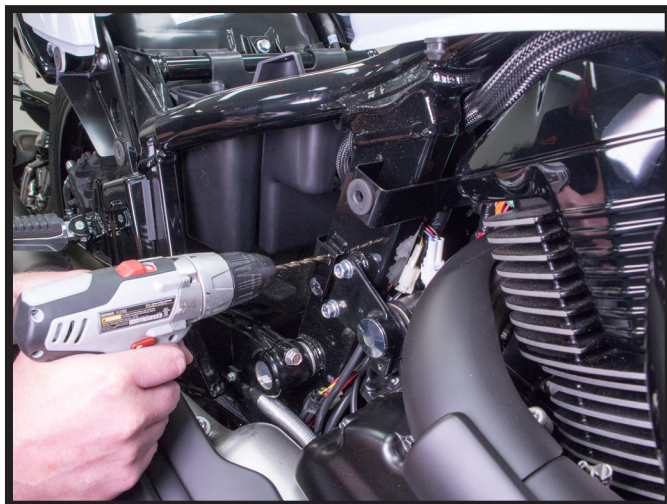

FIGURE 9
4. WITH A 5MM BIT, DRILL THROUGH THE UPPER HOLE INTO THE FRAME. THEN TAP THE HOLE WITH A M6 X 1.0 TAP. (FIGURES 9, 10)